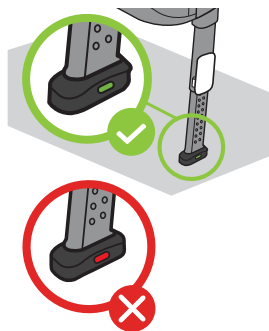

Figure 47
- Pull out and hold bottom of Load Leg Adjustment Handle (1).
- Grasp Load Leg and pull down to extend Load Leg until it touches the vehicle floor (2).
- Confirm that Load Leg Pressure Indicator has turned from red to green, as shown in **Figure 47**. If Indicator remains red after the Load Leg has been locked into position, extend Load Leg one position further to increase the contact between the vehicle floor and the Load Leg.